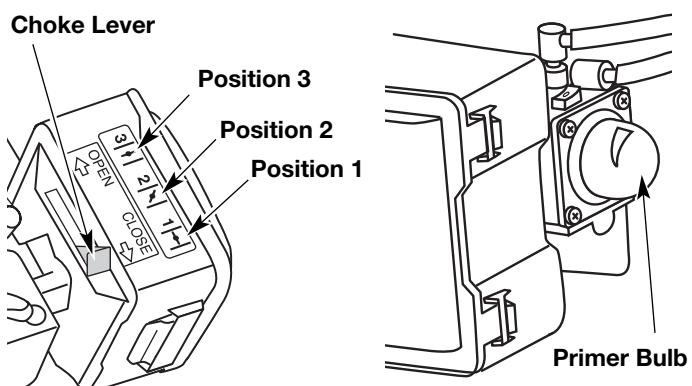

Fig. 11
4. Place the choke lever in Position **1** (Fig. 11).
5. Fully press and release the primer bulb 10 times, slowly. Some amount of **fuel should be visible in the primer bulb** and fuel lines (Fig. 11). If you can't see fuel in the bulb, press and release the bulb as many times as it takes before you can see fuel in it.